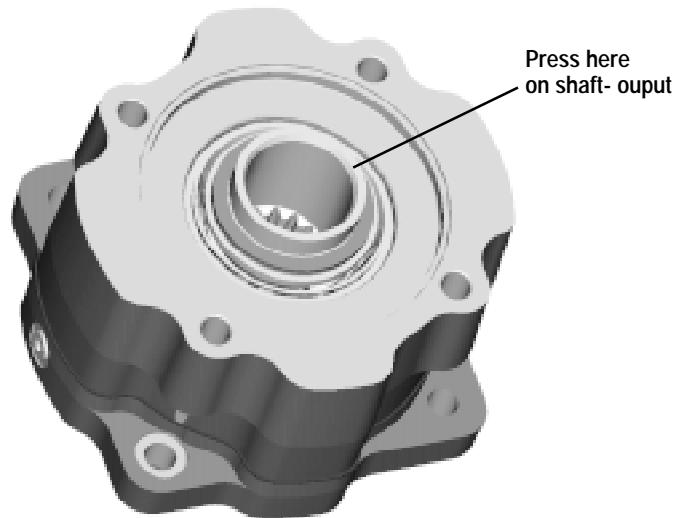

Figure 2.
- 7 Remove **washer (26)** and **shims (27)** from **shaft-output (1)**.
- 8 Press on motor side of the **shaft-output (1)**. Slowly increase pressure until shaft drops through brake assembly, see figure 2.